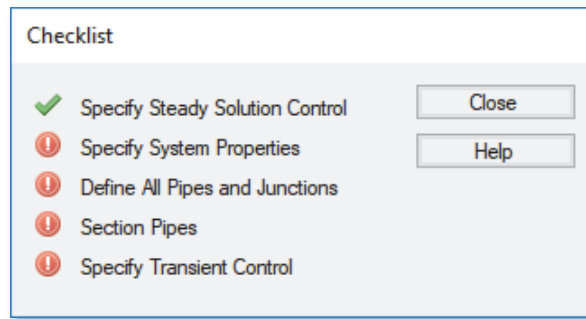

Figure 2.6 The Checklist window tracks the defined and undefined model input
- **Next, click the checkmark on the Main Toolbar** at the top of the AFT Impulse window. This opens the Checklist window (Figure 2.6). The Checklist window (also simply called the Checklist) contains five items. Each item needs to be completed before AFT Impulse allows you to run the Solver.